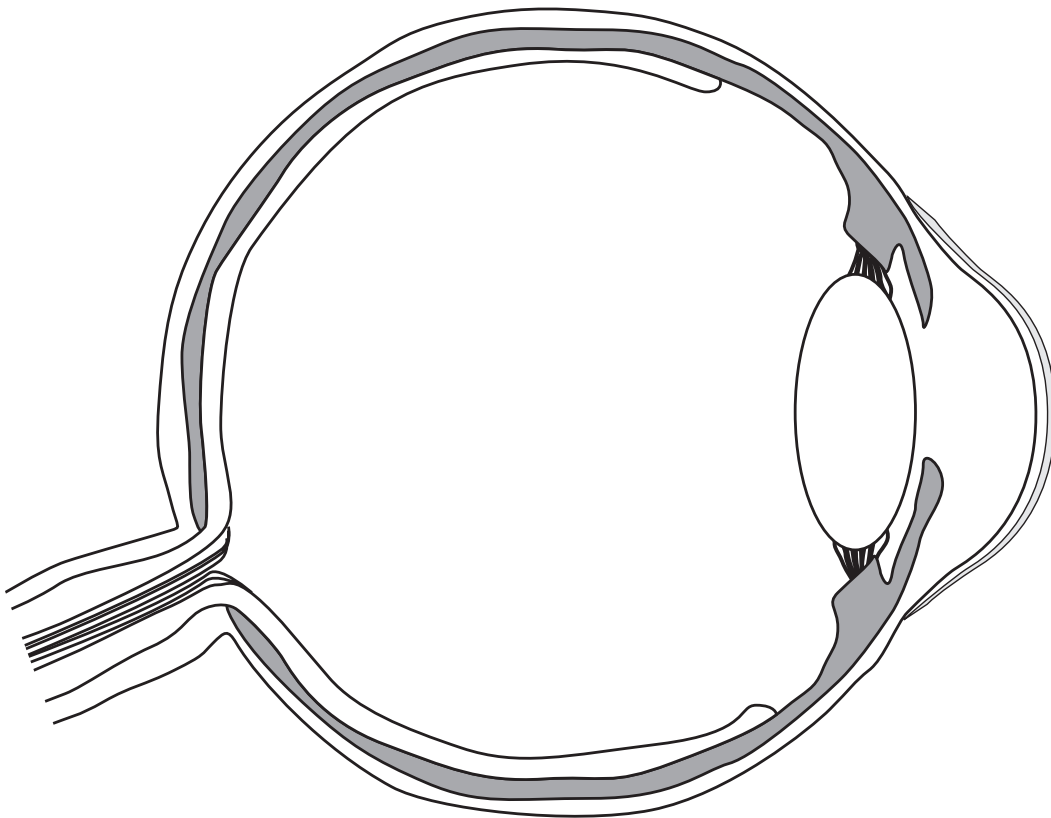

Figure 143.2 Anatomy of the eye
2. Label the following in Figure 143.2: